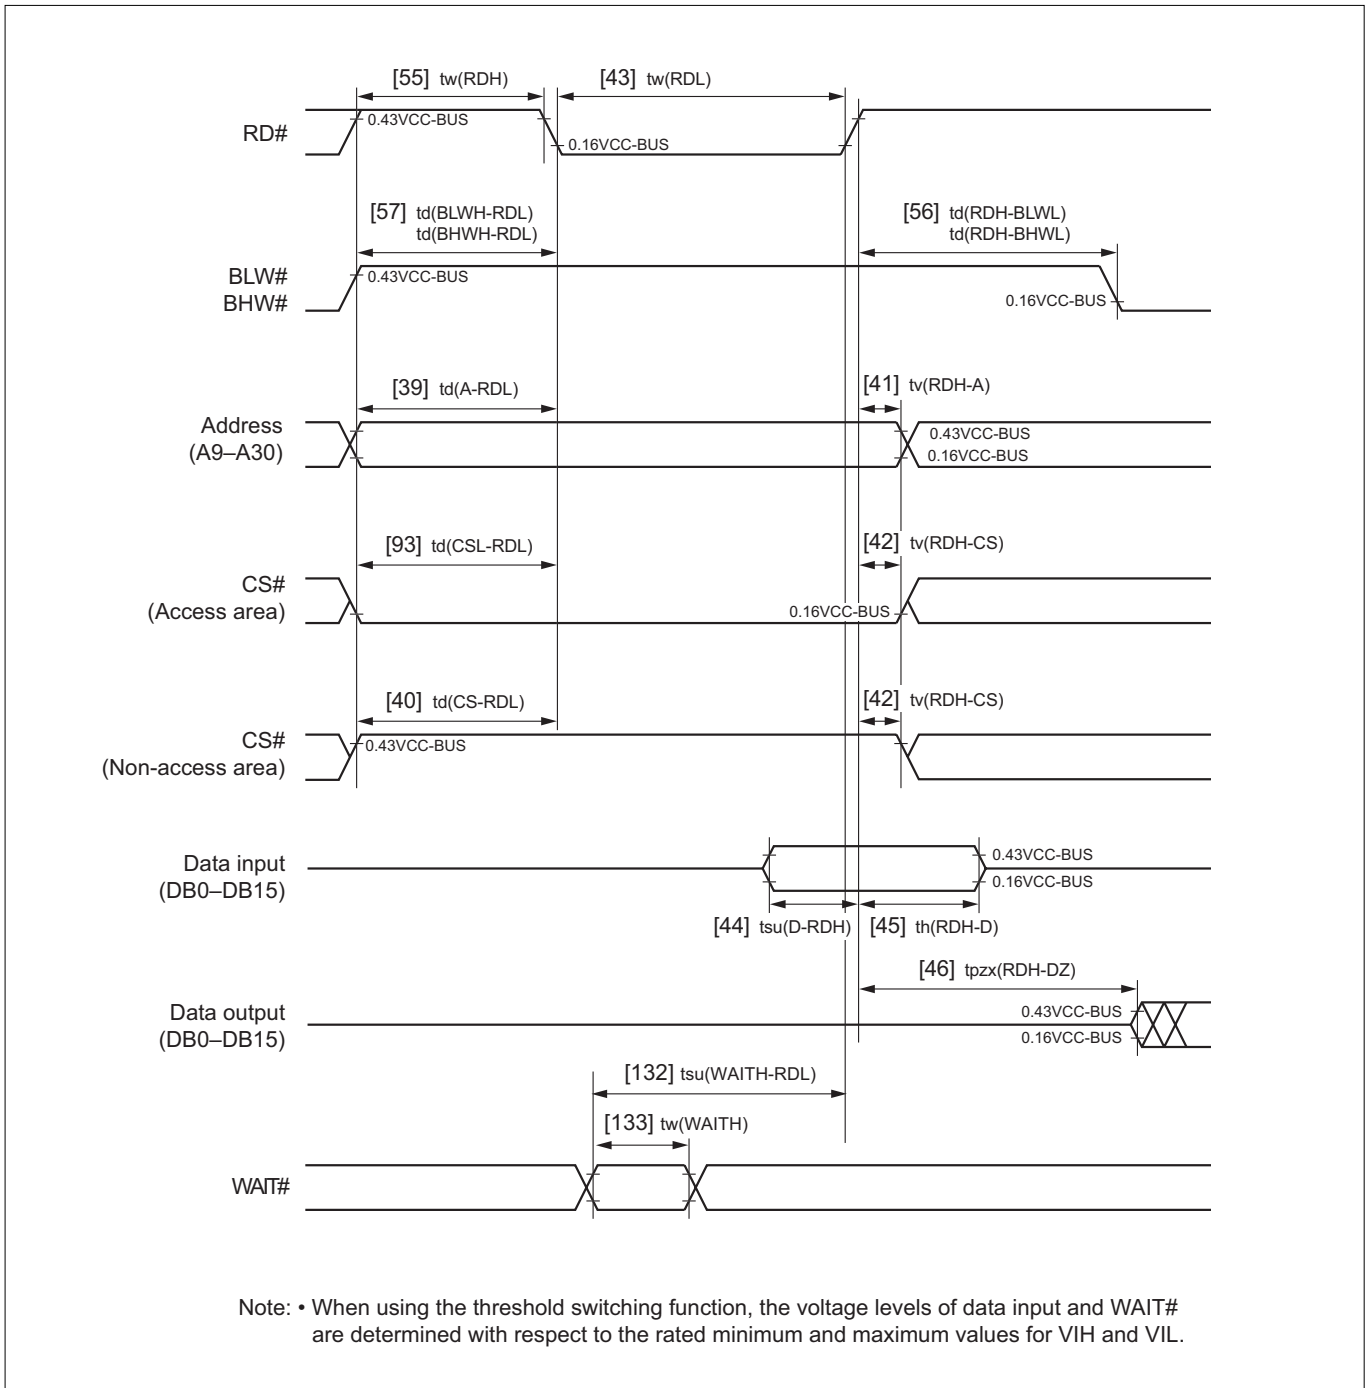
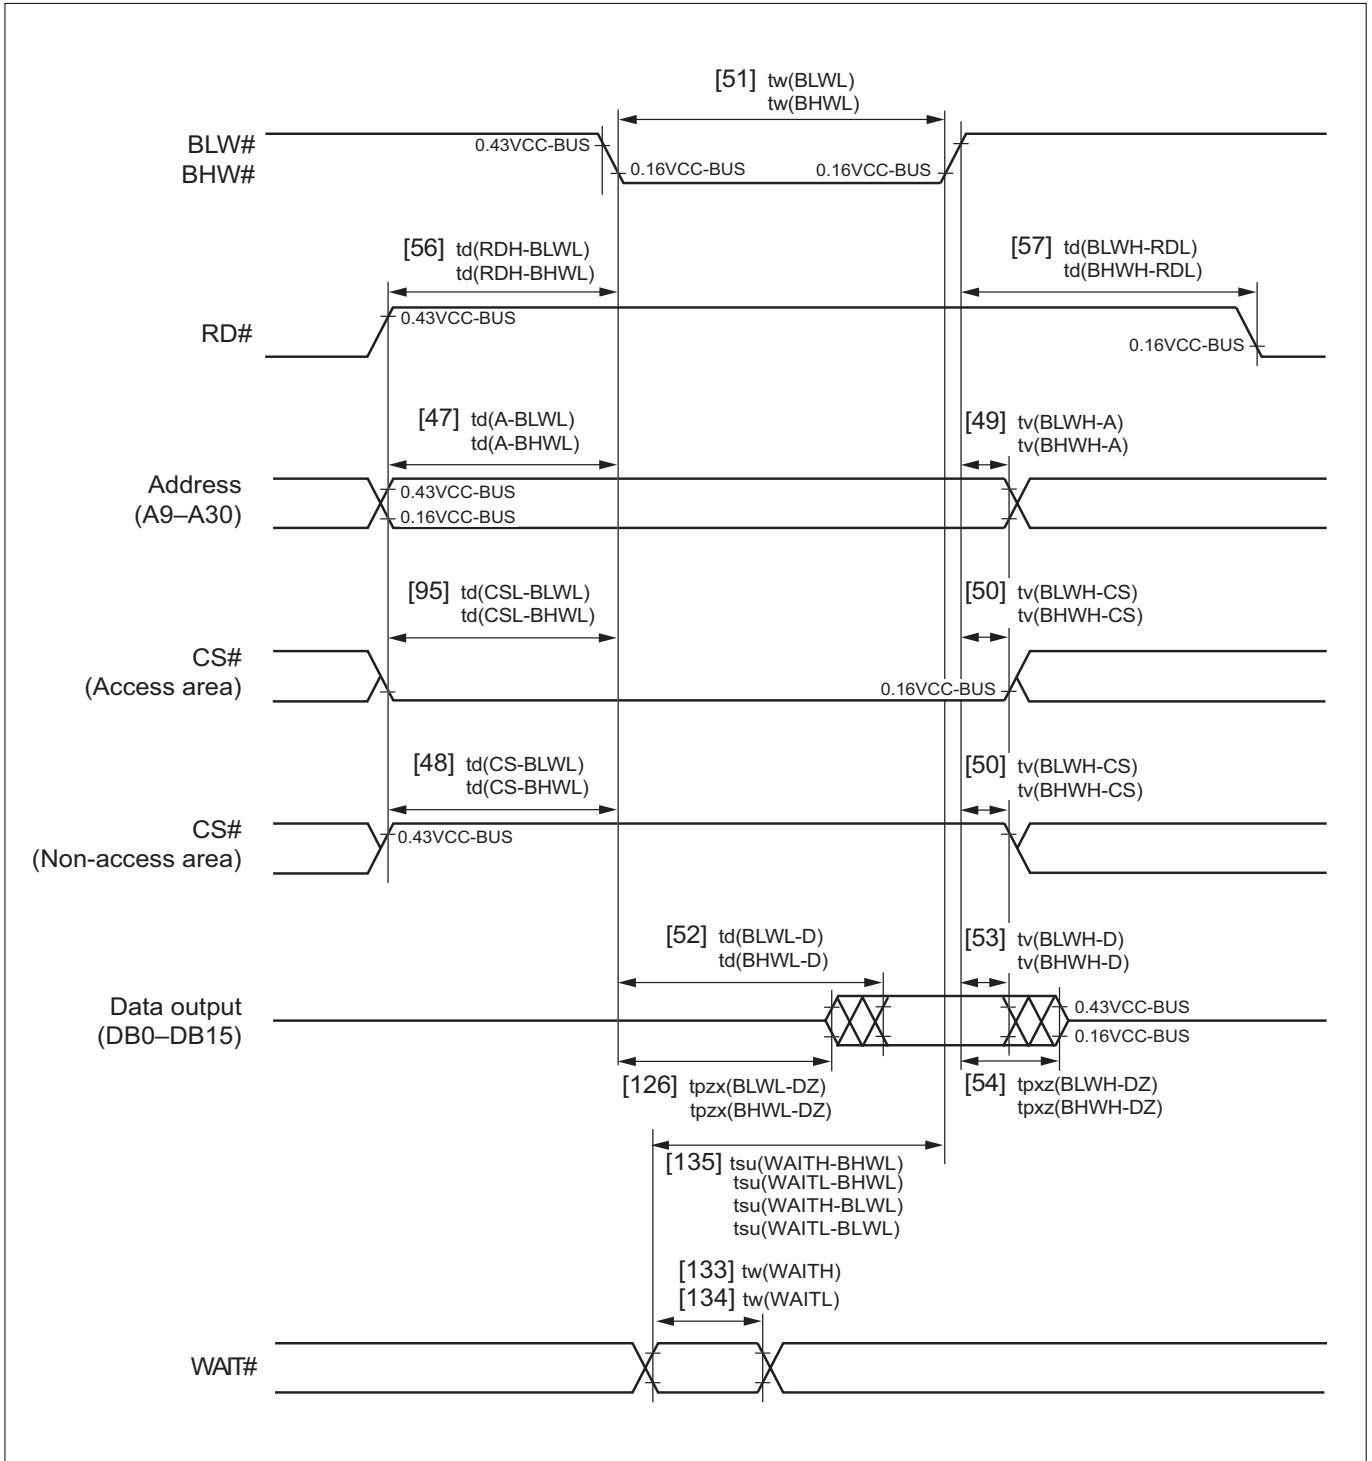

Figure 23.9.12 Read Timing (Relative to Read Pulse)
Figure 23.9.13 Write Timing (Relative to Write Pulse)
- For signal-to-signal timing, see Figure 23.9.12, "Read Timing (Relative to Read Pulse)," and Figure 23.9.13, "Write Timing (Relative to Write Pulse)."